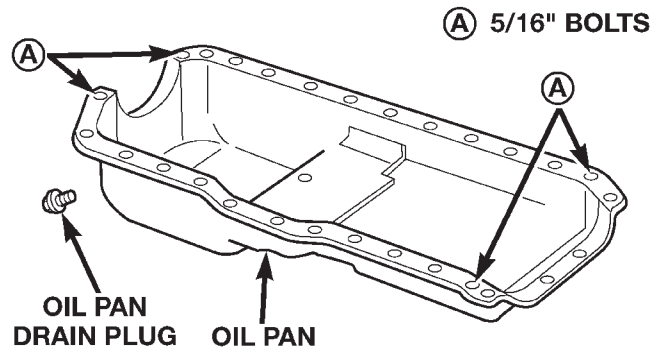

Fig. 52 Position of 5/16 inch Oil Pan Bolts
(5) Slide the one-piece gasket over the dowels and onto the block and timing case cover.
(6) Position the oil pan over the dowels and onto the gasket. If equipped with an oil level sensor, take care not to damage the sensor.
(7) Install the 1/4 inch oil pan bolts. Tighten these bolts to 9.5 N·m (84 in. lbs.) torque. Install the 5/16 inch oil pan bolts (Fig. 52). Tighten these bolts to 15 N·m (132 in. lbs.) torque.
(8) Remove the dowels. Install the remaining 1/4 inch oil pan bolts. Tighten these bolts to 9.5 N·m (84 in. lbs.) torque.
(9) Lower the engine until it is properly located on the engine mounts.
(10) Install the through bolts and tighten the nuts.
(11) Lower the jack stand and remove the piece of wood.
(12) Install the engine flywheel and transmission torque converter housing access cover.
(13) Install the engine starter motor.
(14) Connect the exhaust pipe to the hanger and to the engine exhaust manifold.
(15) Install transmission oil cooling lines (if equipped) and oxygen sensor wiring supports that attach to the oil pan studs.
(16) Install the oil pan drain plug (Fig. 52). Tighten the plug to 34 N·m (25 ft. lbs.) torque.
(17) Lower the vehicle.
(18) Connect negative cable to battery.
(19) Fill the oil pan with engine oil to the specified level.